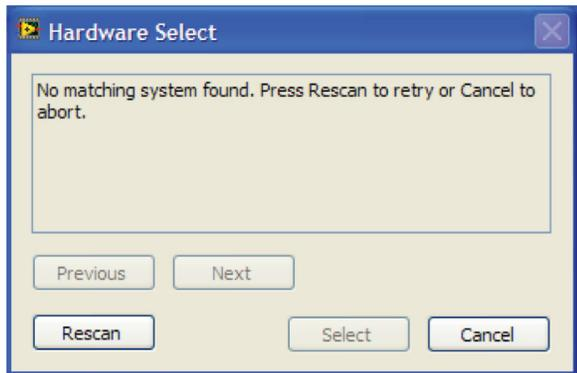

Figure 3. Pop-Up Window Error
2. If the **EVAL-SDP-CB1Z** board is not connected to the USB port when the software is launched, a connectivity error displays (see **Figure 3**). Simply connect the EVAL-CN0304-SDZ evaluation board to the USB port of the PC, wait a few seconds, click **Rescan**, and follow the instructions.